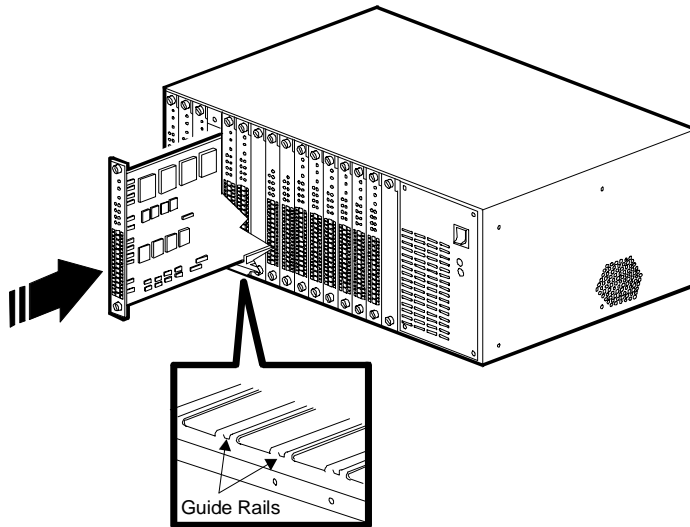

Figure 2-11. Inserting Modem Main Cards
2. Starting at slot 1, hold the modem card by the edges with the front panel facing towards you and align the card with the metal guides of the slot in which you wish to install the card. Refer to Figure 2-11.